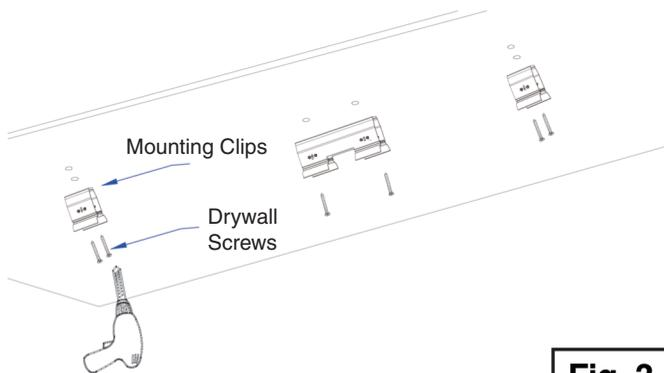

Fig. 3
3. Fix the mounting clips: As shown in **Fig 3.**, using the drywall screws (B) to fix the mounting clips (A) on the ceiling. Fix connecting bracket (F) and end brackets (I). Leave bracket latches up.